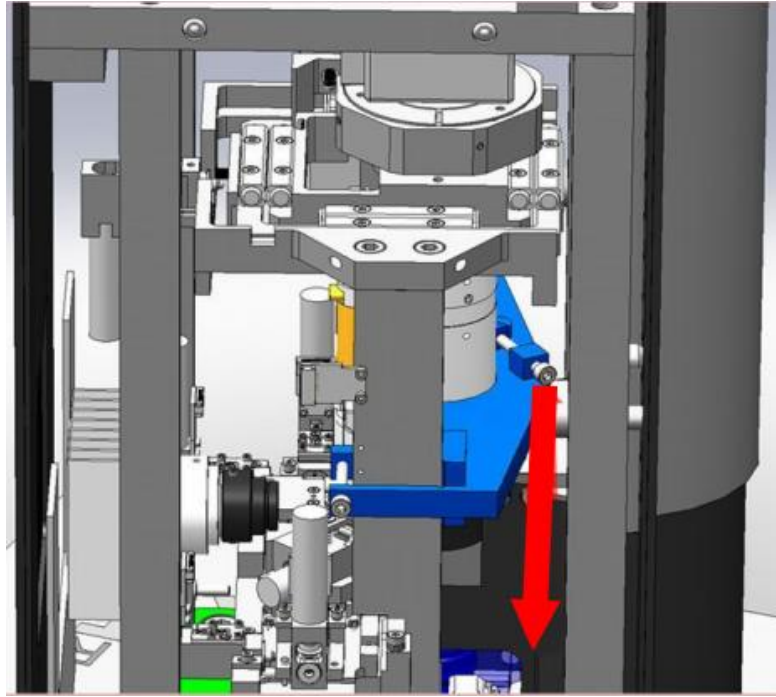

Fig. 3-2
2. Unlock the bracket by unscrewing the screw M3 (Fig. 3-2).